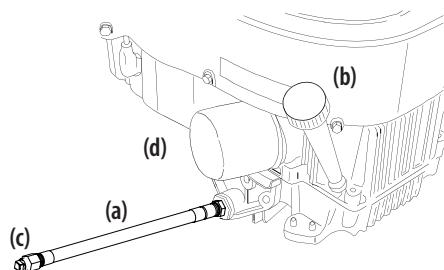

Figure 35
- While holding the free end of the oil drain hose over the oil collection container, unscrew the square head hose plug (c) from the end of the oil drain hose. See Figure 35. Drain the engine oil into the collection container.